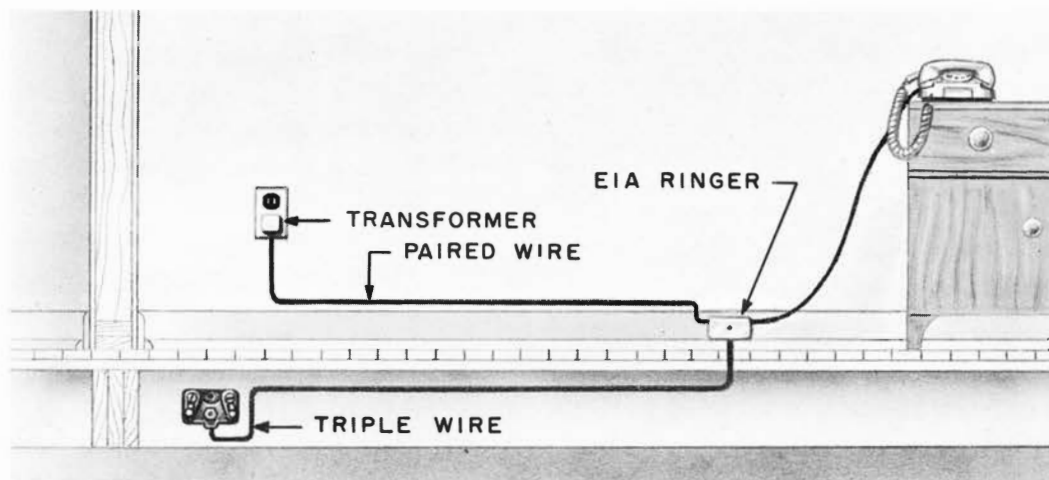

Fig. 1 — Typical Installation of 701B Telephone Set
1.01 This section covers the installation of the 701- and 711-type telephone sets. Typical installations are shown in Fig. 1 and 2. Connections are shown in the appropriate C section covering connections for the 701B, 701D, and 711B telephone sets.